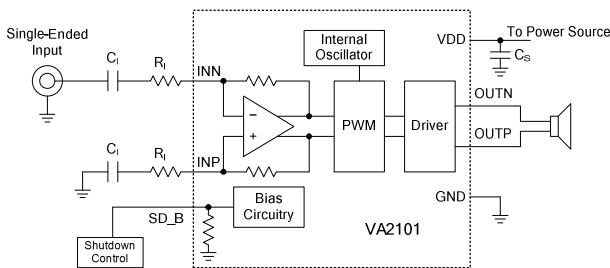

Figure 4. Single-Ended Input Configuration
The VA2101 can also be used with single-ended signal sources, but input capacitors shall be added to block DC voltage at the input terminals. The typical single-ended configuration is shown in Figure 4. Use equation (1) to calculate the gain and set the frequency response by equation (2). Hold for the single-ended configuration as shown in Figure 4.